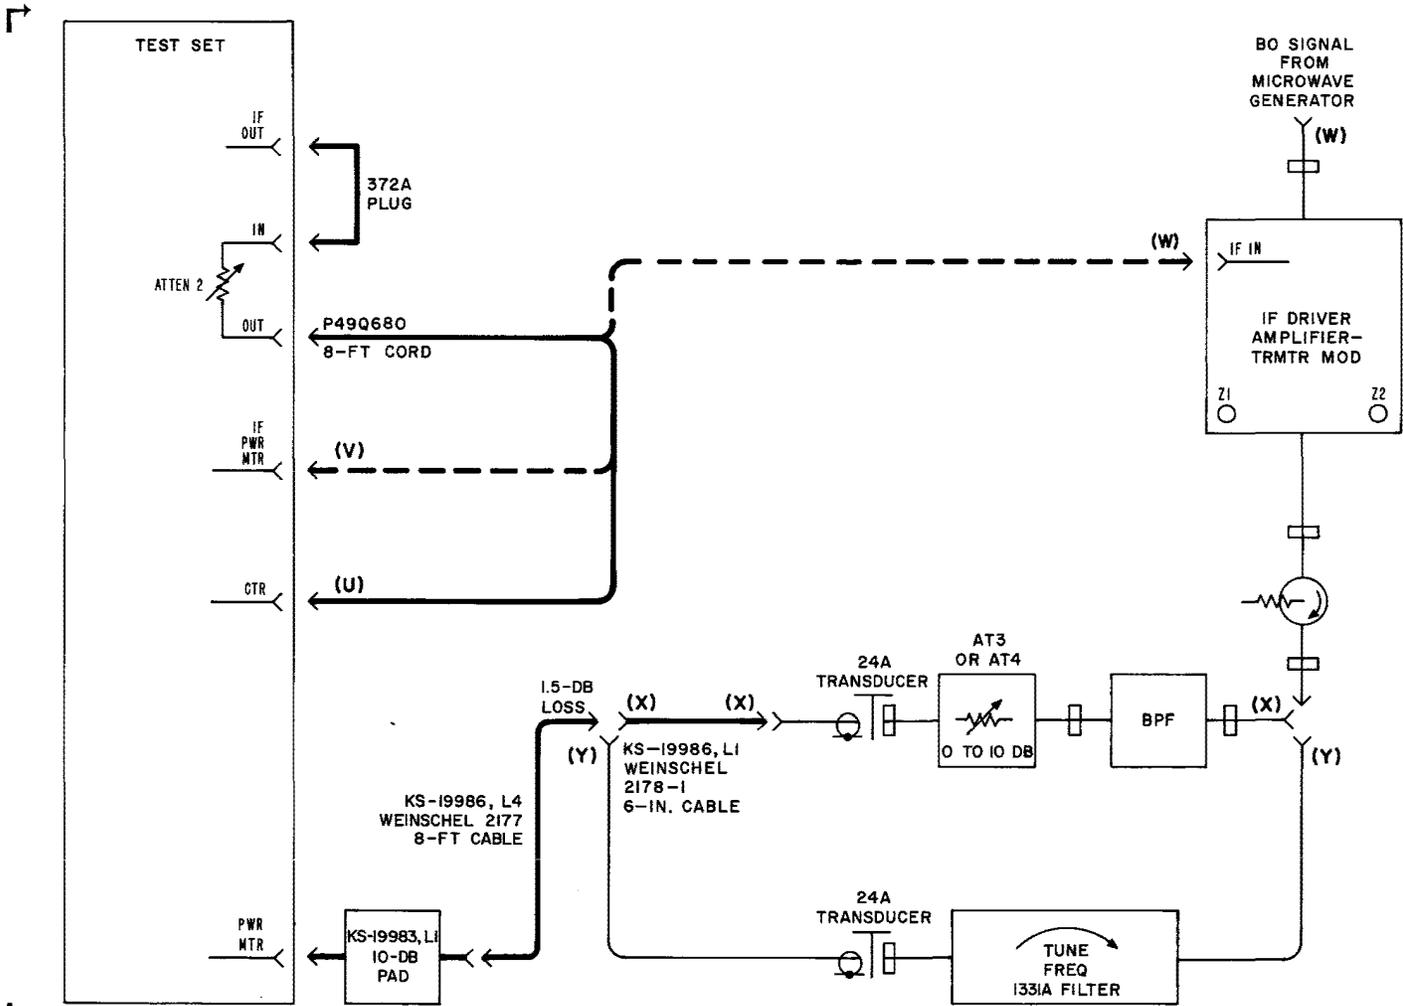

Fig. 2—Beat Oscillator Suppression Test Setup
◆ This Section is reissued to add a 10-dB pad to Fig. 2 and to correct the requirement in Chart 1, Step 9.◆
2	Make connections in accordance with Fig. 2, option (V).